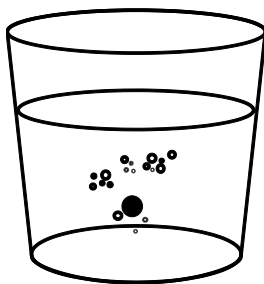

Figure 3. Disk floating to surface
- Record the time required for the disk to float to the surface of the hydrogen peroxide (Figure 3) in Table 2.